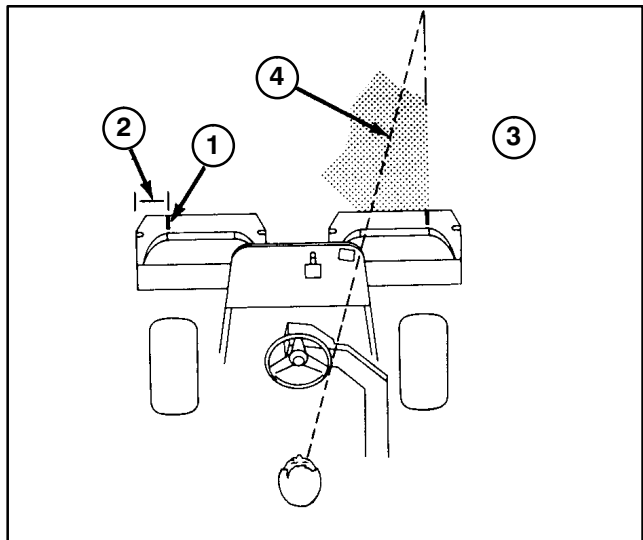

Figure 24
- Either place a strip of white tape or paint a line onto each basket paralleling the outer edge of each basket (Fig. 24)
3. Overlap a minimal amount with the previous cut on return passes. To assist in maintaining a straight line across the green and keep the machine an equal distance from the edge of the previous cut, establish an imaginary sight line approximately 6 to 10 feet ahead of the machine to the edge of the uncut portion of the green (Fig. 24 & 25). Some find it useful to include the outer edge of the steering wheel as part of the sight line; i.e. keep the steering wheel edge aligned with a point that is always kept the same distance away from the front of the machine (Fig. 24 & 25).